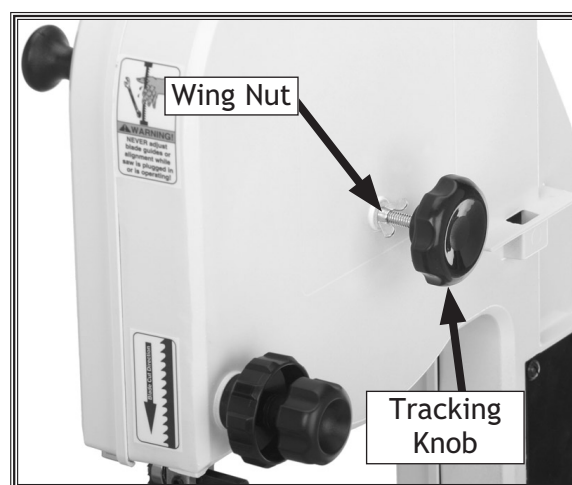

Figure 27. Tracking knob and wing nut.
5. Loosen the tracking knob wing nut shown in **Figure 27**.